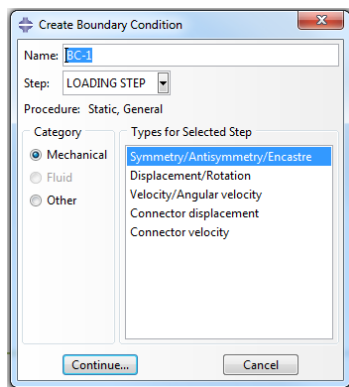

**Figure 23.** Edit Step Dialog Box
- Click **Continue...**, and the **Edit Step** dialog box will immediately appear (Figure 23).